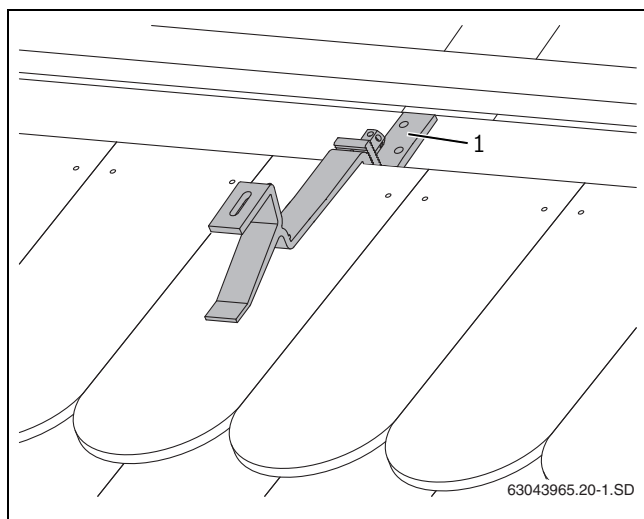

Fig. 17 Assembled roof hook
- Push down the lower part of the roof hook as much as possible until it comes to rest on the rafter or boards/planks (Fig. 17, [1]).